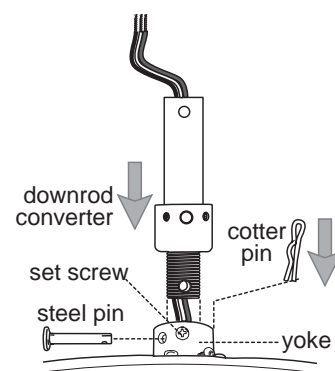

figure 3
3. Starting at threaded end of downrod converter, thread wiring from fan through downrod converter and out the top. (You may require a wiring extension kit, sold separately, if you are using a longer downrod.) (figure 3)
Insert the threaded end of the downrod converter into motor housing yoke and align holes. Re-insert steel pin that was removed from fan and then re-install cotter pin. [Tip: It may be necessary to use a small screwdriver to move the wires *gently* to one side in order to push the steel pin completely through the holes in the downrod converter and the yoke.] Tighten set screws on motor yoke to secure downrod converter. (figure 3)